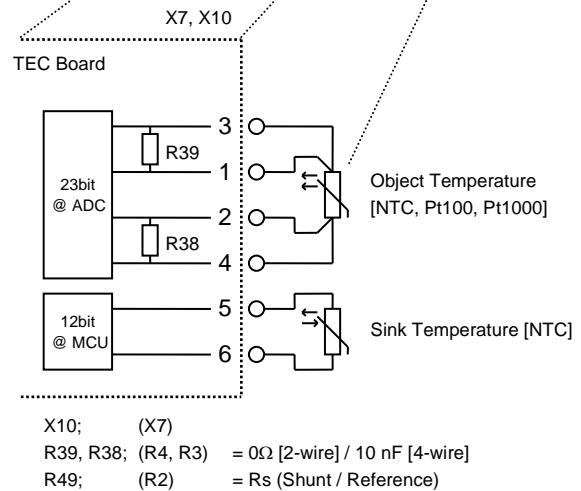

Figure 3. Schematic top view of a TEC-1122-based dual-channel TEC controller. Elements relevant to the end-user are highlighted.
- Locate the four mounting holes M1-M4 (TEC-1091-based: see Figure 1, TEC-1089-based: see Figure 2, TEC-1122-based: see Figure 3)
□ Either the green or the red status LED (see Figure 1, Figure 2 or Figure 3) should be blinking / lit